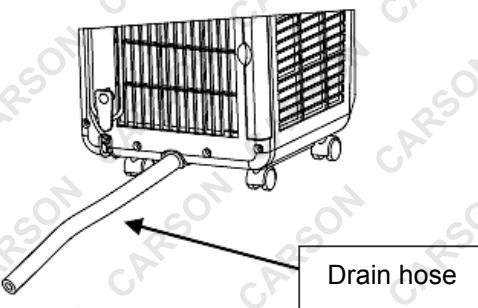

Figure 14
- Insert the OD 13mm PVC drain hose (8-10mm) into the water outlet (Figure 14).